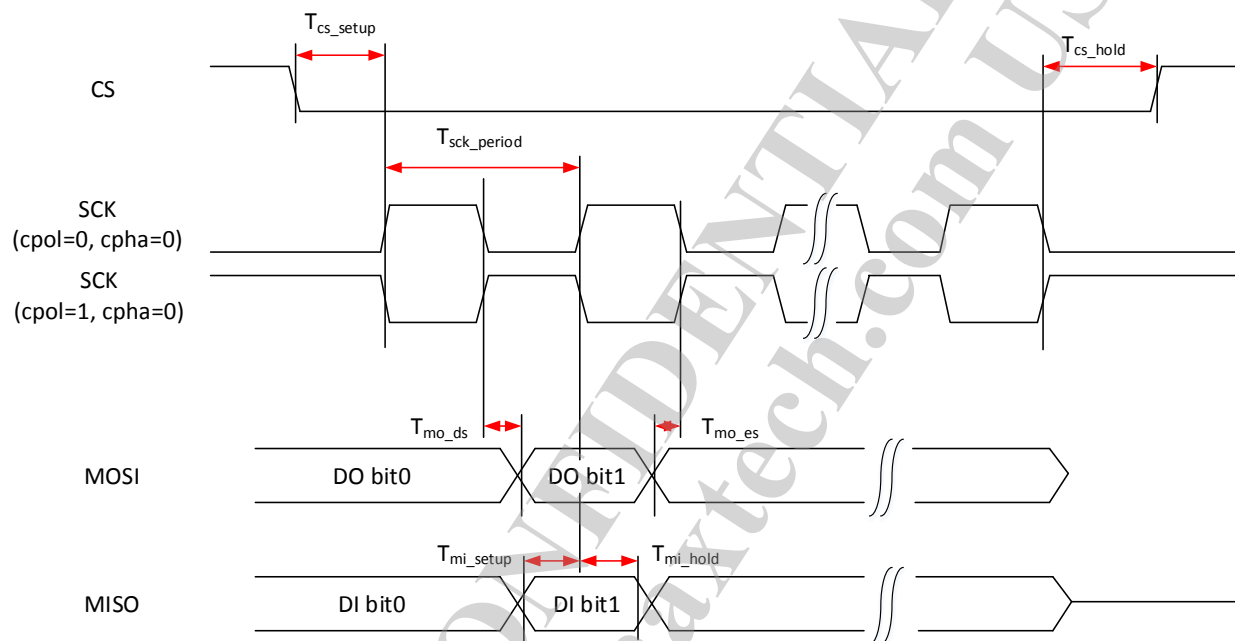
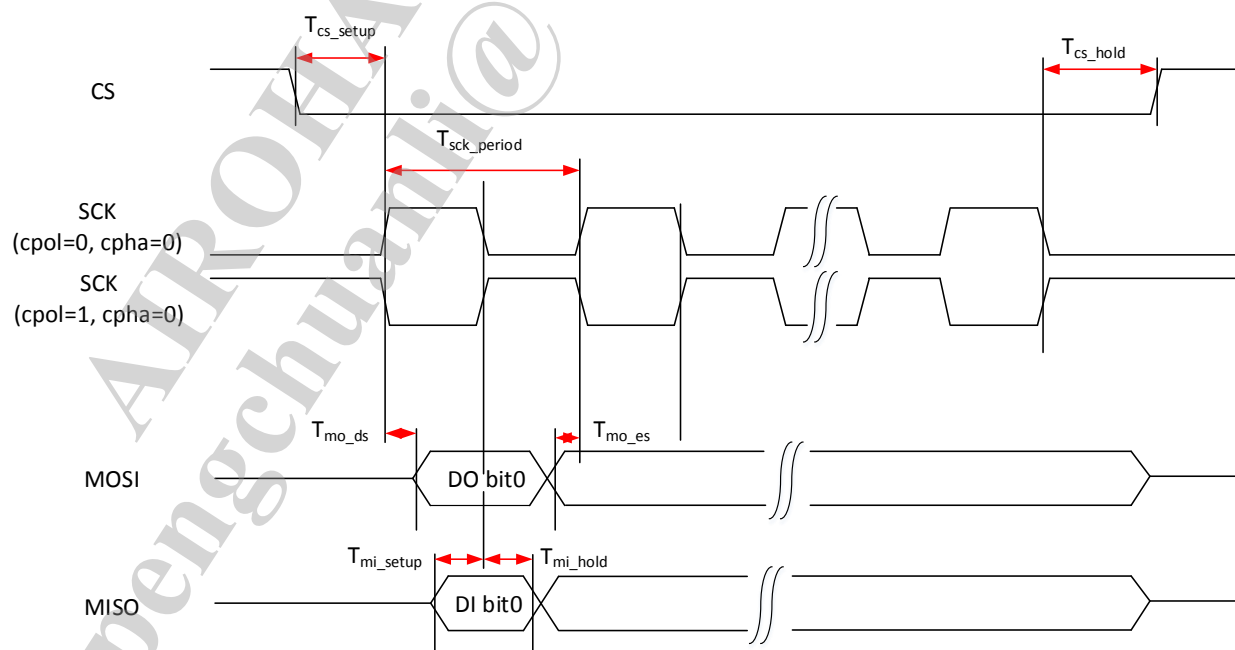

Figure 7.4-1. SPI master interface timing diagram (CPHA=0)
Figure 7.4-2. SPI master interface timing diagram (CPHA=1)
- The operating characteristics of the SPI master controller at typical temperature (25°C) are shown in Figure 7.4-1, Figure 7.4-2 and Table 7.4-1. CPOL defines the clock polarity in the transmission. CPHA defines the legal timing to sample data.